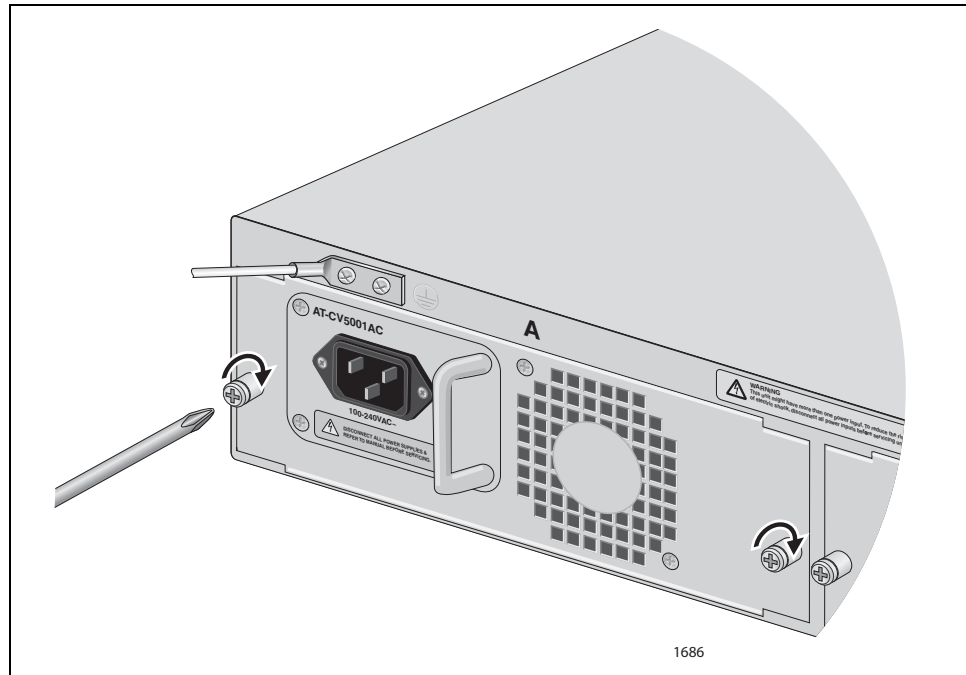

Figure 15. Securing the AT-CV5001AC Power Supply
5. Secure the AT-CV5001AC Power Supply to the chassis by tightening the captive screws, as shown in Figure 15.
5. Secure the AT-CV5001DC Power Supply to the chassis by tightening the captive screws, as shown in Figure 15.